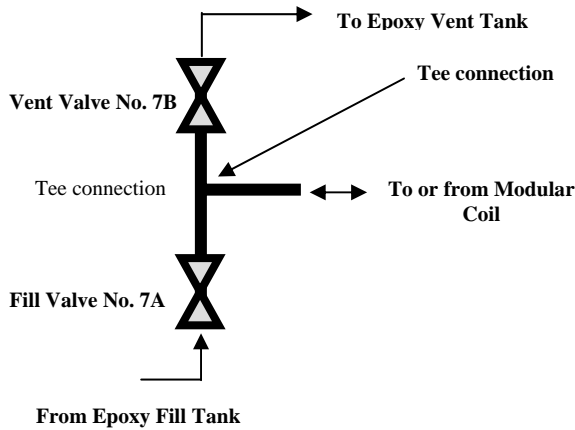

Figure 5- Typical Zone 2 Valve Assembly
- Continue filling operations until the epoxy exits sprues 9 thru 35 [Zone 2] and approaches the tee connection. [Figure 5- Typical Zone 2 Valve Assembly] Once the line from the manifold “A” valve to the tee connection is filled, **open** the corresponding “A” valve and **close** the corresponding “B” valve. This allows that sprue to be used for filling the coil.